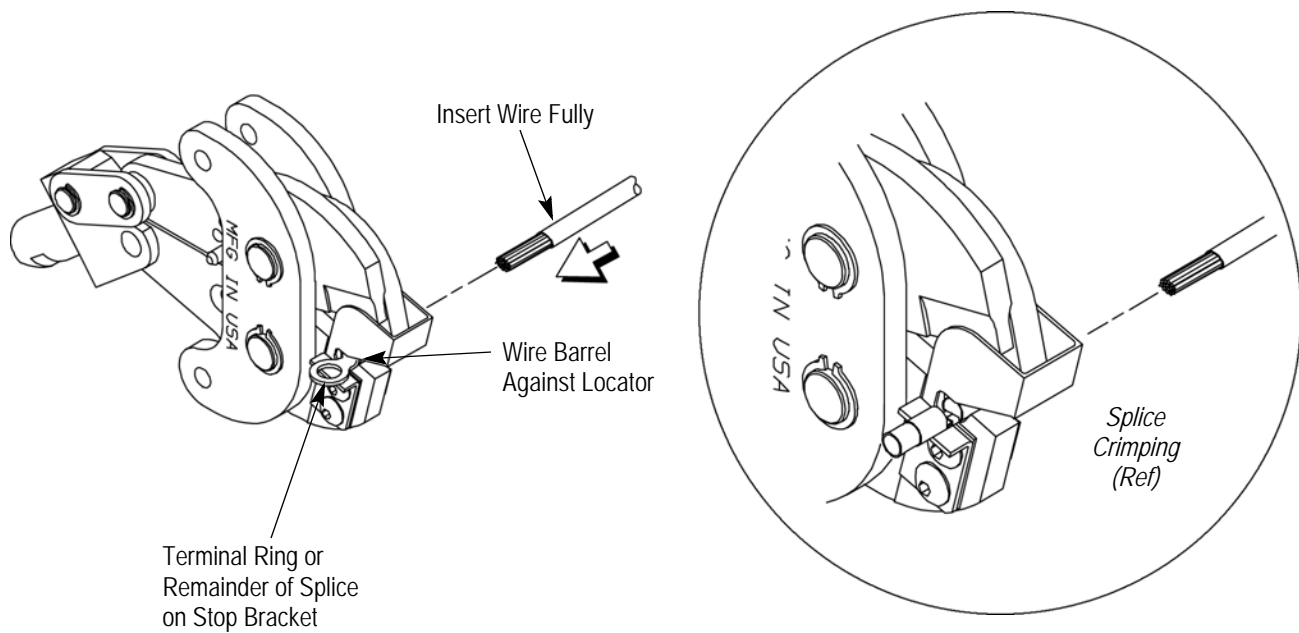

Figure 4
2. Place terminal or splice in crimping area of die head assembly as shown in Figure 4.